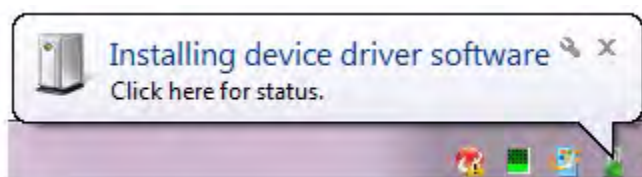

Figure 25. Install Device Driver Dialog, Windows 7
2. After the PC detects the new hardware, it will display the *Installing device driver software* dialog shown in Figure 25.